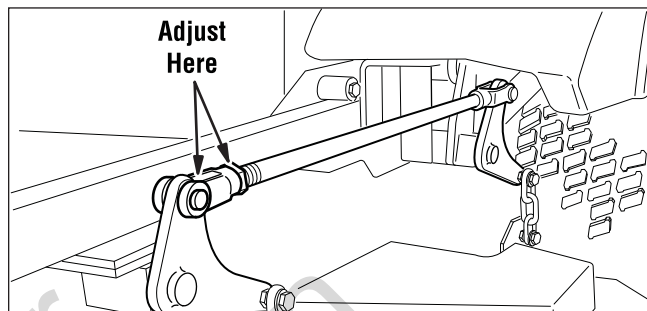

Figure 39. Adjust Lift Rod Timing
7. See Figure 39. To adjust the lift rod, loosen the jam nut on the front clevis then remove the 1/2" clevis pin fastening the clevis to the lift pivot arm. Turn the clevis clockwise to shorten the distance between the rod pivots or counterclockwise to lengthen the distance between the rod pivots. Reinstall the clevis on the lift pivot arm and secure with the 1/2" clevis pin previously removed. Tighten the jam nut against the clevis.